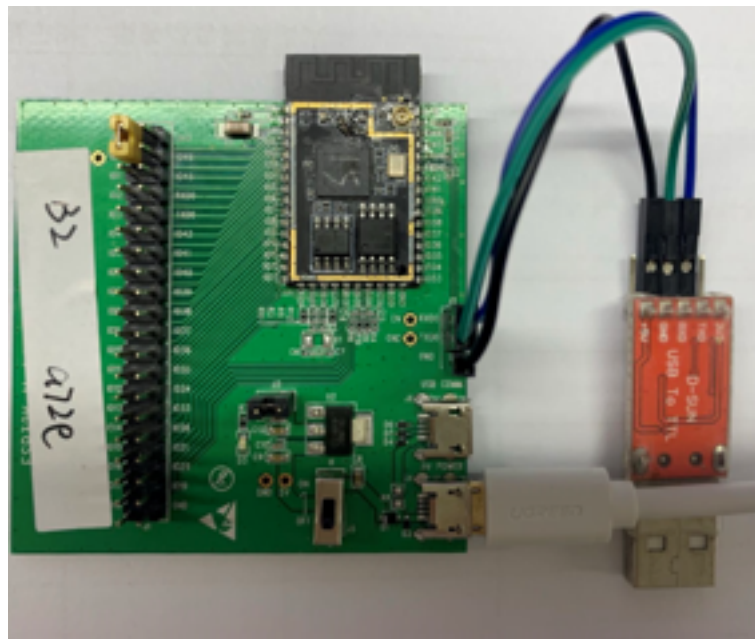

Figure 2-1. Testing Environment Setup
1. Connect ESP32-S2-MINI-1, ESP32-S2-MINI-1U and the RF testing board, as Figure 2-1 shows.